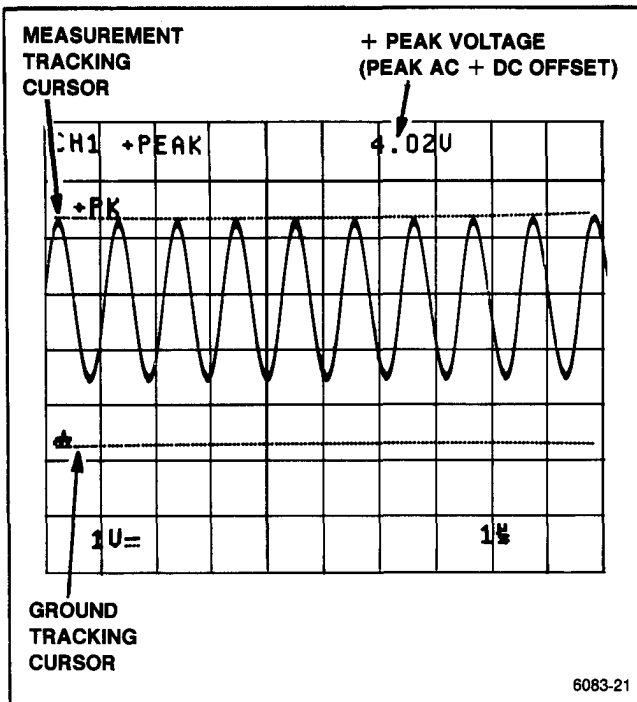

Figure 6-7. +PEAK voltage measurement and tracking cursors.
7. See Figure 6-7. The test signal used for the example has a dc offset (as shown by the position of the TRACK  $\uparrow$  cursor), and +PEAK value (peak ac + dc) as indicated by the voltage readout.